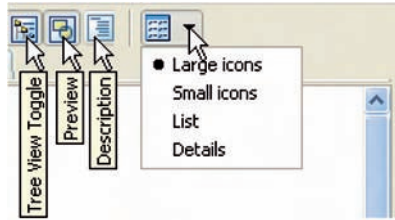

Fig. 9.11 The icons at the top-right corner of the DesignCenter palette
2. *Clicks* on one of the three icons at the top-right corner of the palette (Fig. 9.11) have the following results: